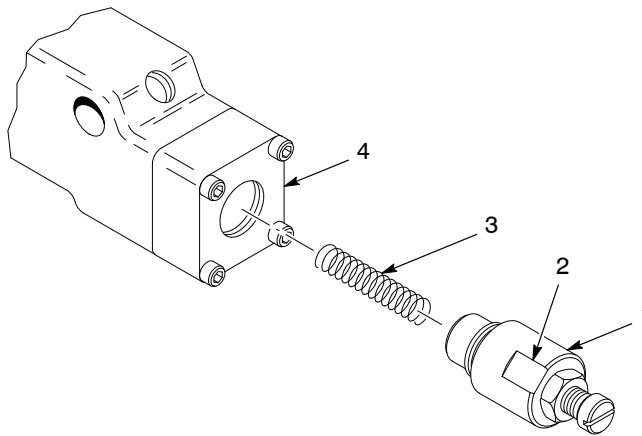

Figure 7-3 Adjuster Housing Removal
1. See Figure 7-3. Use an adjustable wrench on the wrench flats (2) to loosen the adjuster housing (1) from the spray gun body cover (4).